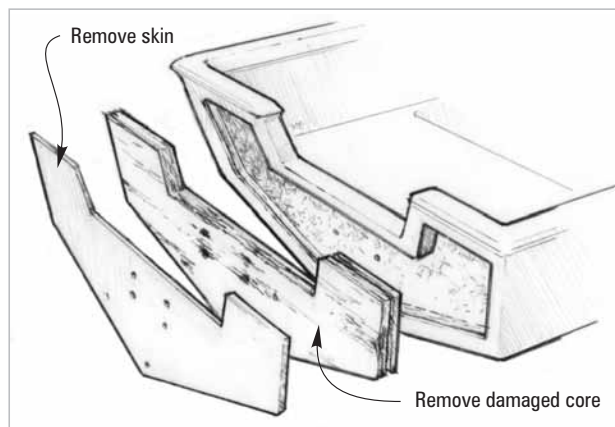

Figure 5-9 Cut through the outer skin at the perimeter of the core. Remove the skin and the core if it is delaminated or rotted.
4. Remove the damaged plywood core (*Figure 5-9*). Use a chisel or whatever combination of tools you need to remove all damaged material. The plywood core in the perimeter and corners of the transom will be the biggest challenge. If necessary, use large drill bits to carefully weaken and re-